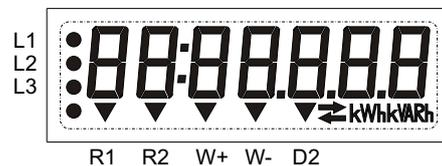

Figure 1
- Display: LCD custom design 42x12 mm as shown in fig. 1
- According to figure 1, the LCD displays: